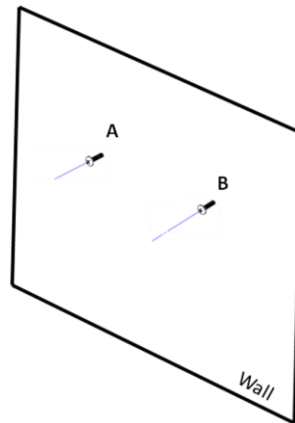

Figure 23. Drill two holes and install screws for hanging purposes
Step 2. Then, drill Hole A & B and install screws for hanging purposes as shown in Figure 23.